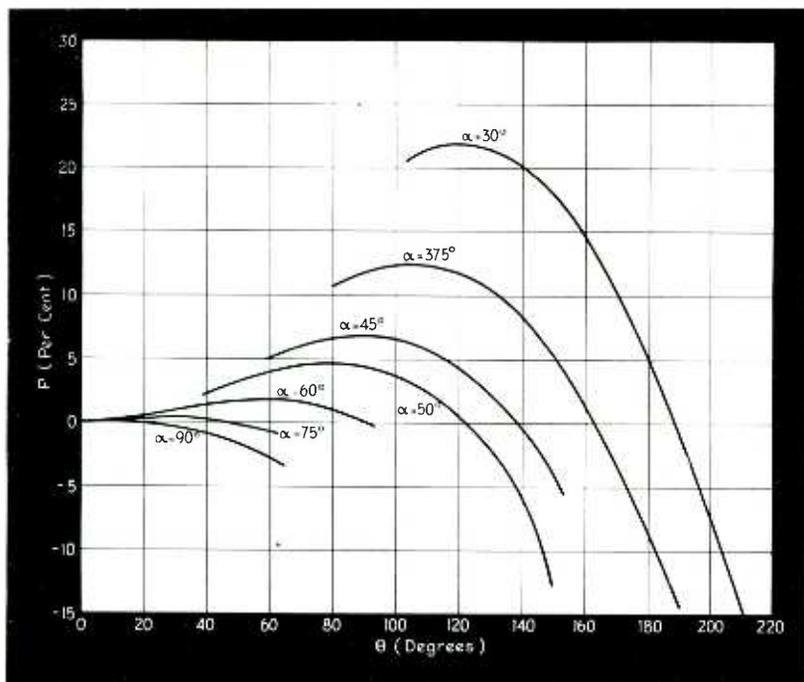

Fig. 6—The output voltage correction factor,  $P$ , versus the angle of conduction for cases where the rectifier resistance is appreciable
Figure 6 shows the values of  $P$  for various values of  $\theta$  and  $\alpha$ . It will be noted that  $P$  is usually very small, and since  $\theta$  is usually much less than  $2\pi$ , Eq. (8) will be accurate enough for most applications.